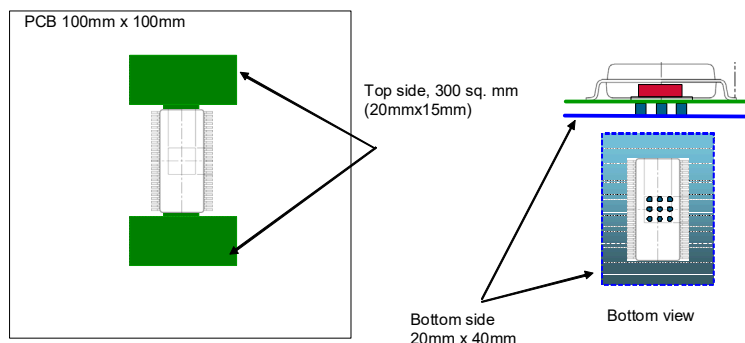

Figure 13. PCB with top and bottom layer dissipation area (dual layer)
- This parameter was measured according to Figure 13: